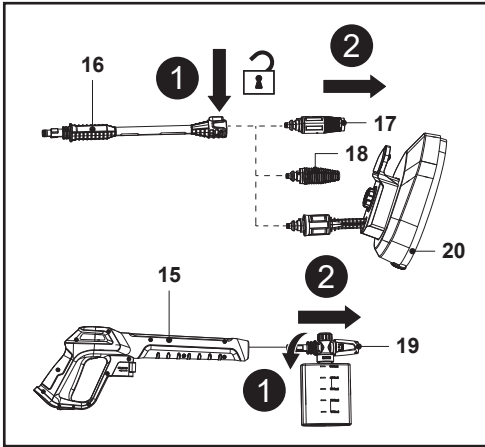

Fig. 17
1. Disconnect the nozzle (17 / 18 / 20) from the extension lance (16) or disconnect the detergent bottle nozzle (19) from the spray gun (15) (Fig. 17).